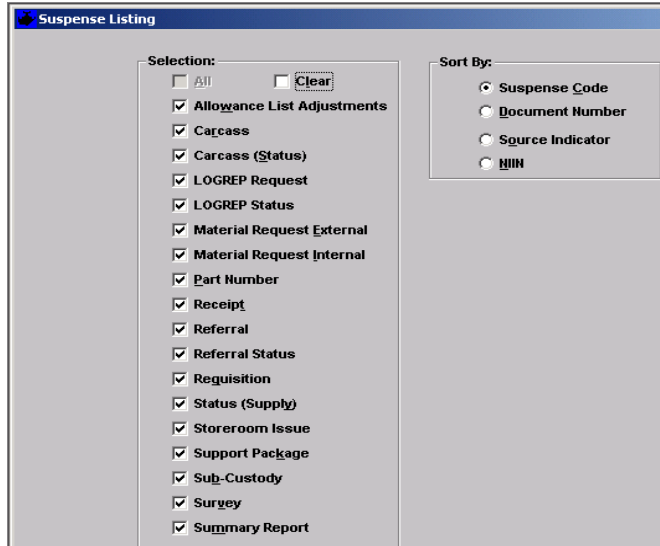

Figure 6.32
- 6.8.1 The *Suspense Listing window* (Figure 6.32) generates a specific Suspense listing or multiple Suspense listings.